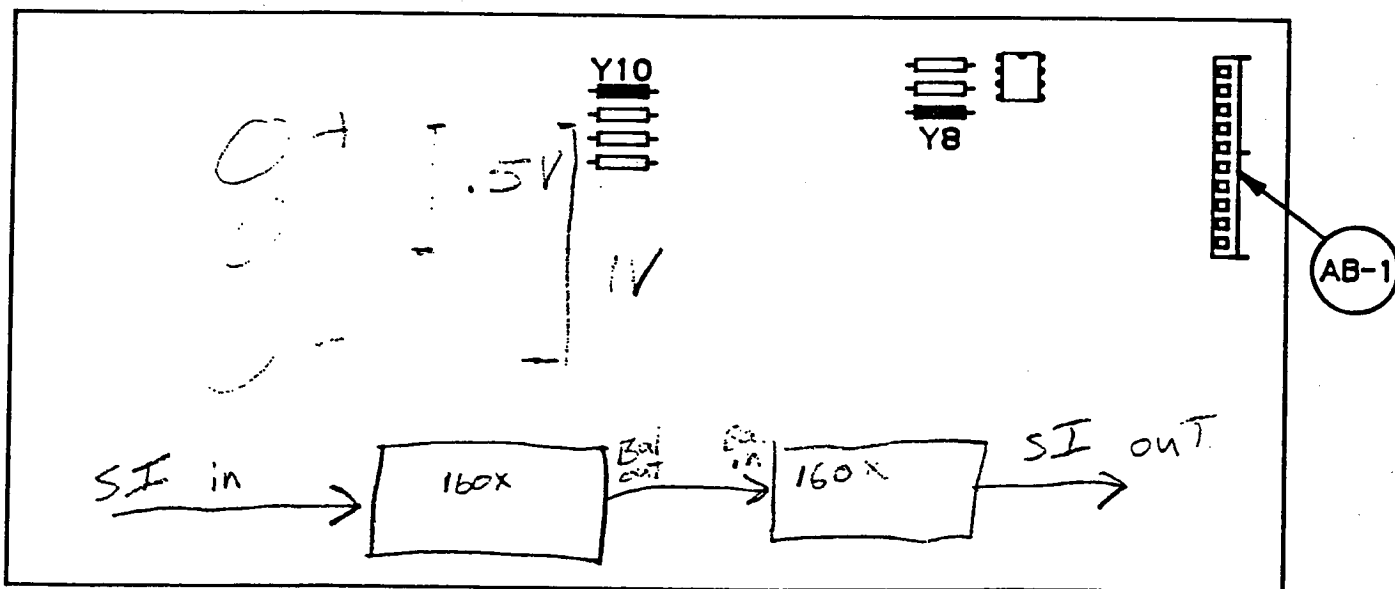

Fig. 2-5 - Model 160X Main Circuit Board
5. Referring to Figure 2-5, find the location on the 160X main circuit board where the AB-1 plugs in. Insert the AB-1 into its Molex connector oriented with the hole in the AB-1 circuit board positioned over the spacer, which will act as a support for it.